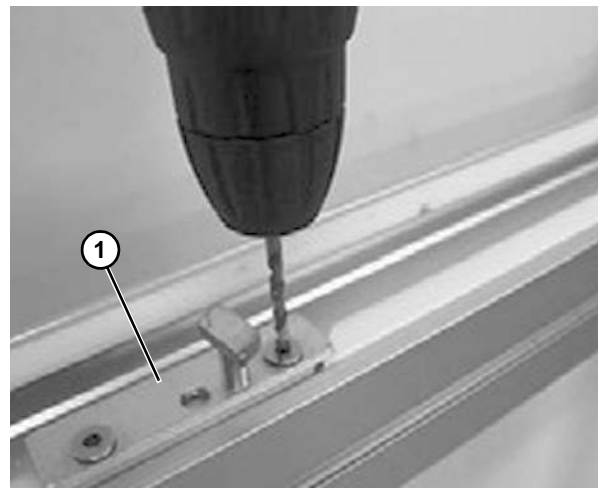

Figure 39
1. Drill two holes near the beginning of each slide rail section. Use the drill fixture (**Figure 39, item 1**) to ensure clean-cut holes and the correct location of the holes. The holes must be at the leading edge of the joint piece, in the direction of travel, to hold the slide rail in place when the conveyor is in use. Use a well sharpened 1/8", #31, or 3.2mm drill bit.